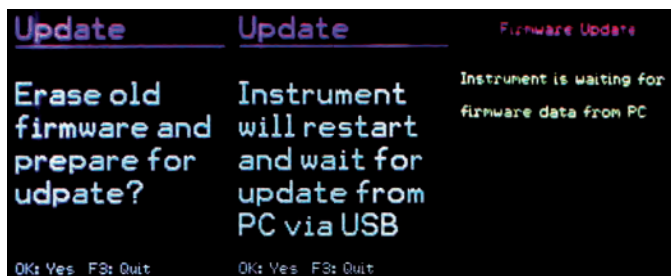

Figure 49: Firmware update
6. Within the PCE-VM 25 "Instrument Settings" select the option "Update Firmware" and confirm the warning and subsequent hint messages by pressing OK. By carrying out this step the old firmware is deleted. The PCE-VM 25 will then indicate that it awaits new firmware data from the USB port (Figure 49).